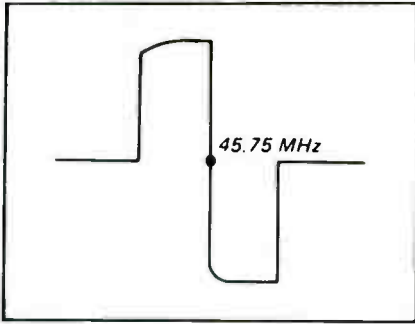

Fig. 6-26. AFC output waveform.
- 4—Adjust VL509 and VL510 to obtain the monitor scope waveform shown in Fig. 6-26.
12—Ensure that the waveform on the monitor scope screen is as shown in Fig. 6-26.